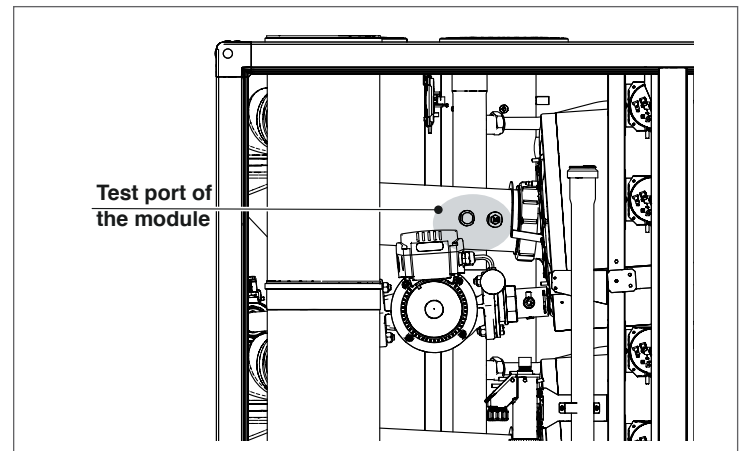

Fig. 18 Test Port for Combustion Analysis (available on each individual heat exchanger)
- Insert a combustion analyzer probe into the test port shown in Fig. 18;